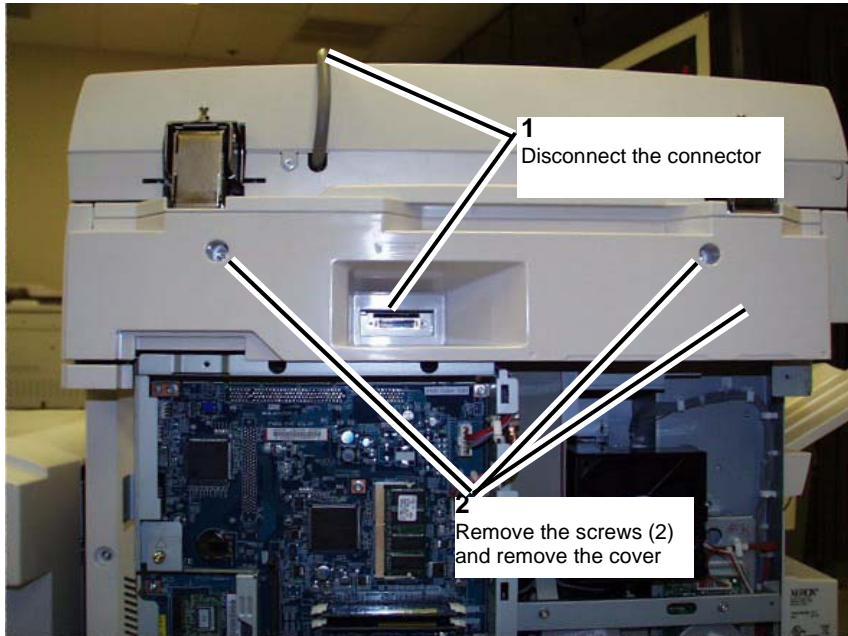

Figure 5 Remove the Rear Top Cover
7. Remove the Rear Top Cover. (Figure 5)